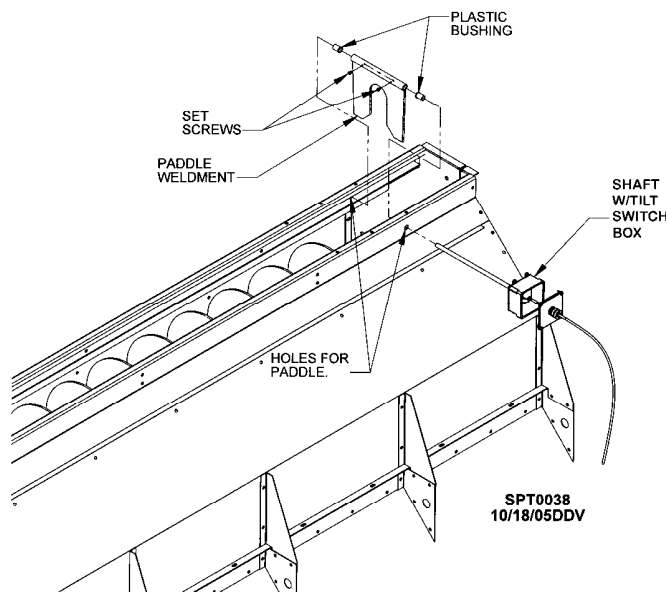

Fig. 2-11 – Paddle switch installation
4. Slide a plastic bushing on each side of wet bin from inside out. Slide shaft with tilt switch box through bushing on one side of wet bin. Position paddle weldment inside of wet bin and slide shaft through pipe of paddle weldment. Slide shaft through bushing on other side of wet bin. Tighten setscrews of paddle weldment onto shaft, making sure paddle and box on shaft are square and paddle can pivot freely. See Fig. 2-11.